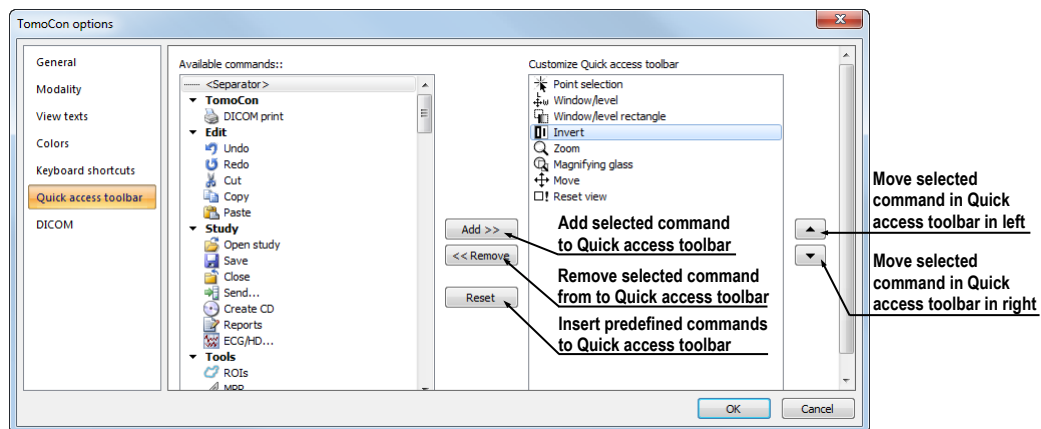

Figure 64 – Inserting Close command after Invert command in Quick access toolbar
3. Click on the **Add >>** button (see Figure 64).